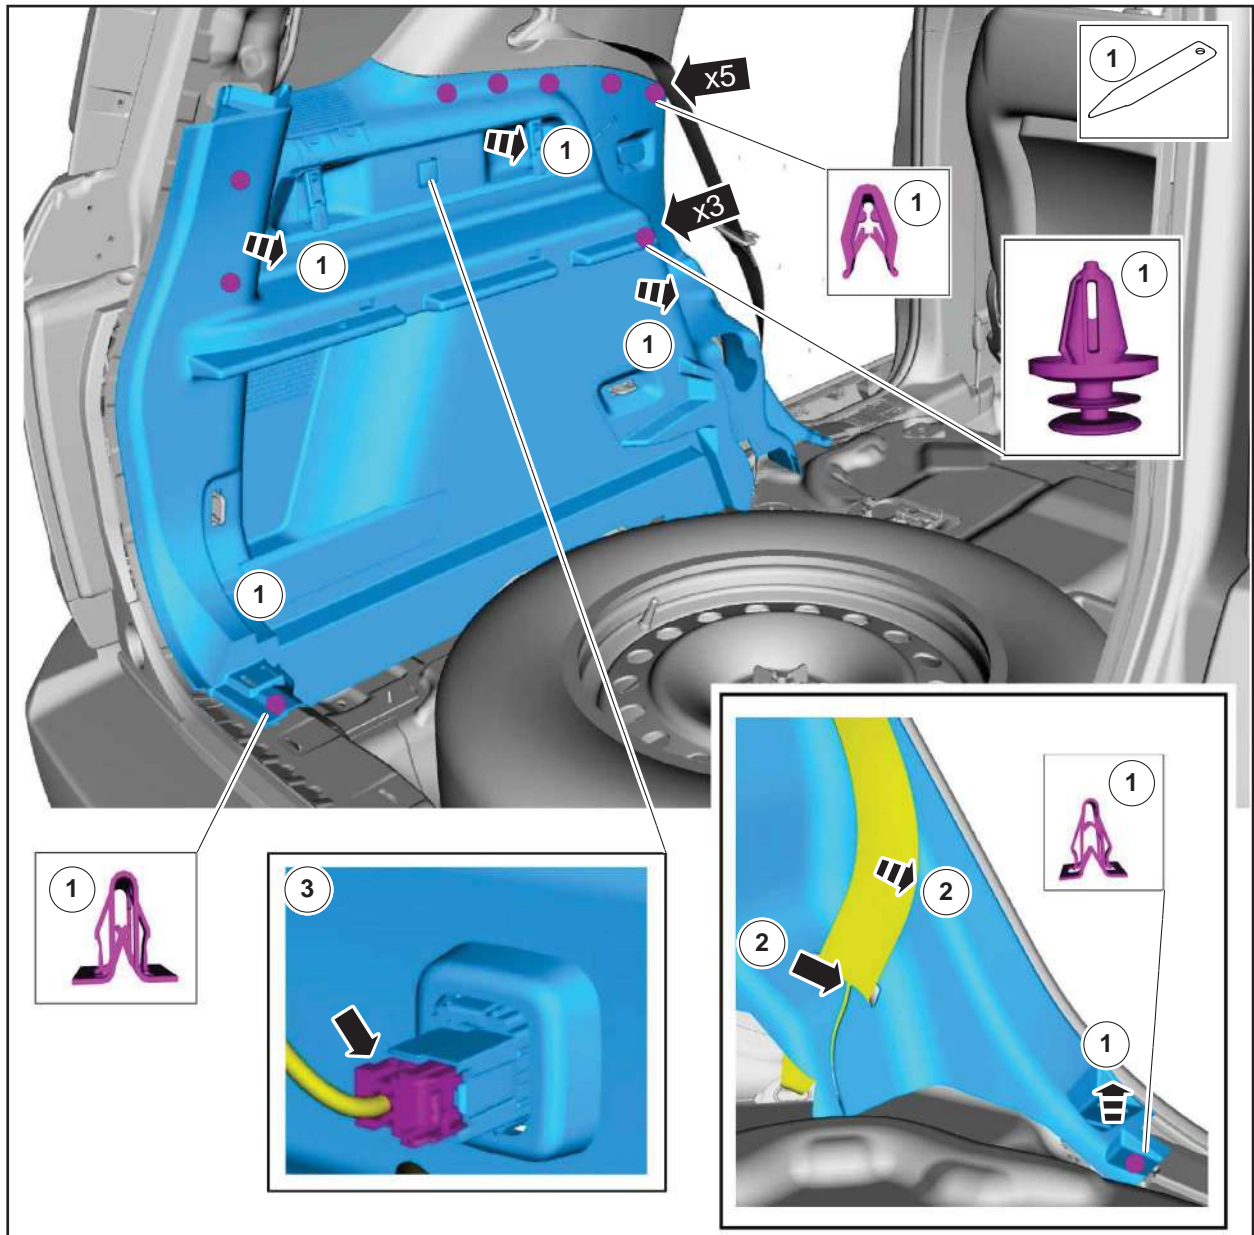

FIGURE 23
23. Remove the LH loadspace trim panel. See Figure 23.